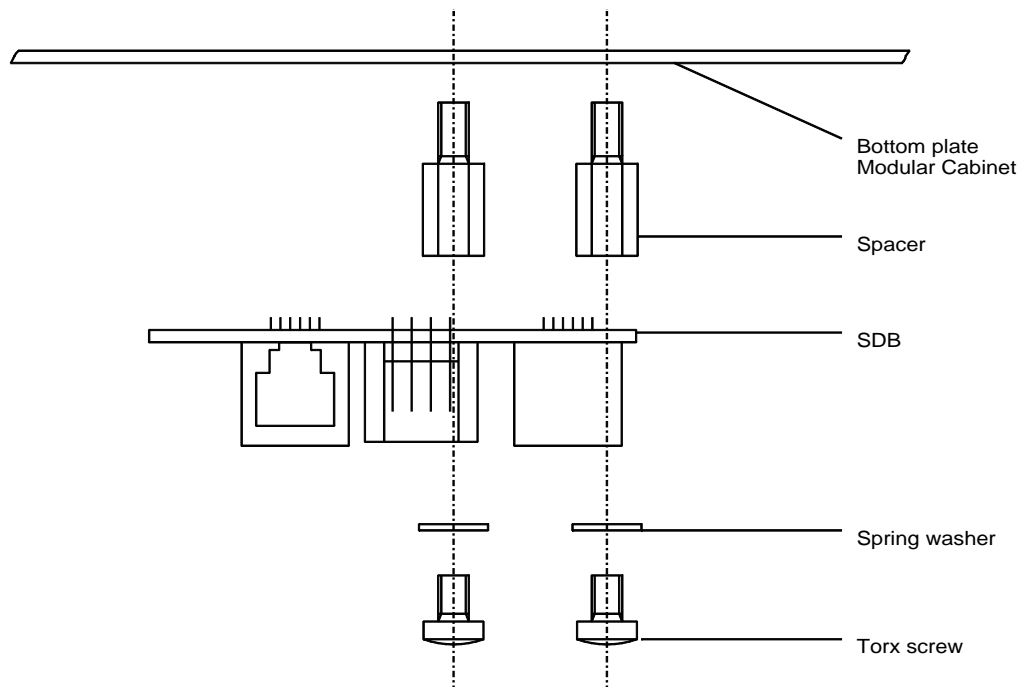

Fig. 4–7 Mounting of the Synchronization Distribution Board
1. Unscrew the left fixation screw of the mains switch bracket (refer to Figure 4–2 for the location and orientation).
4. Mount the SDB as indicated in Figure 4–7 and tighten screws (maximum torque 0.59 lb./ft.).